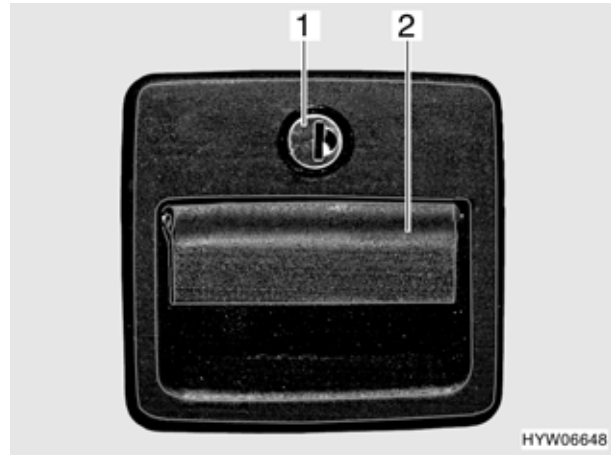

Fig. 32 Flap lock (variant 2)
- Insert key into locking cylinder (Fig. 32,1) and turn in a clockwise direction until the flap lock is unlatched.
- Pull on the lock handle (Fig. 32,2). The external flap is open.
- Insert key into locking cylinder (Fig. 32,1) and turn it in an anticlockwise direction. The flap lock is locked.